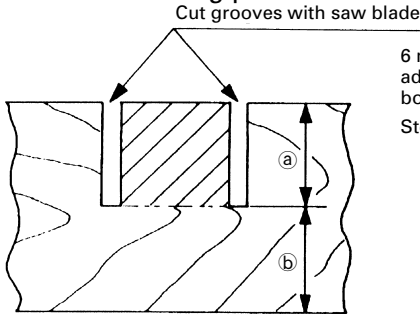

Fig. 48
Grooves in the workpiece can be cut as indicated in Fig. 48 by adjusting the 6 mm depth adjustment bolt.
- (2) Adjust to the desired cutting depth by setting the distance between the saw blade and the surface of the turntable (see b in Fig. 48).